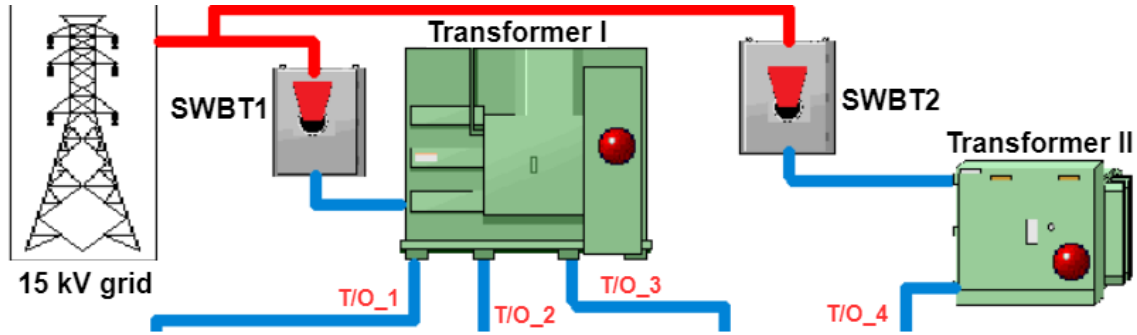

Figure 7: Two transformers are wired to the electrical grid.
To power the factory, we load the electricity from the 15 kV grid to two transformers, Transformer I and Transformer II, through two main circuit breakers (CB) called SWBT1 and SWBT2. The Transformer I has three outputs: T/O_1, T/O_2, T/O_3. The Transformer II has one output: T/O_4 (Figure 7).